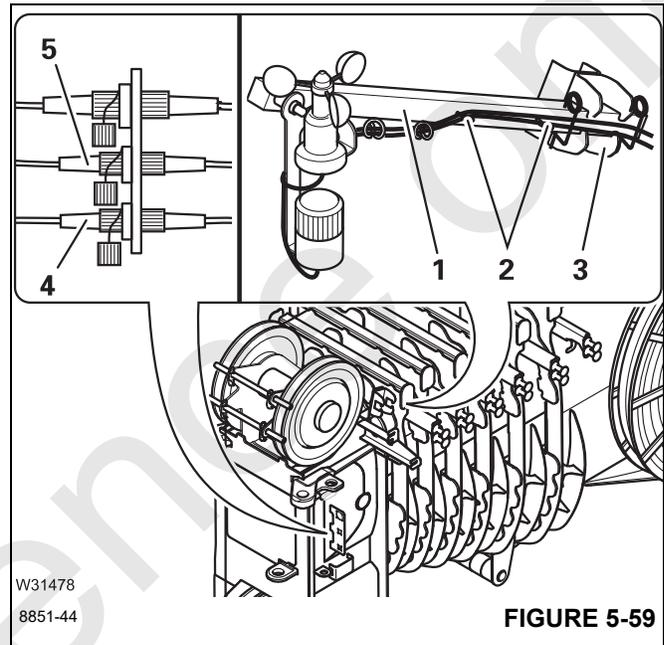

FIGURE 5-59
- Insert the rod (1), (Figure 5-59) into the holder (3), and secure it with the retaining pins.
- Remove the cable from the holders (2), (Figure 5-59) and connect..
- the anemometer to socket (4), (Figure 5-59).
- the boom position indicator light to the socket (5), (Figure 5-59).